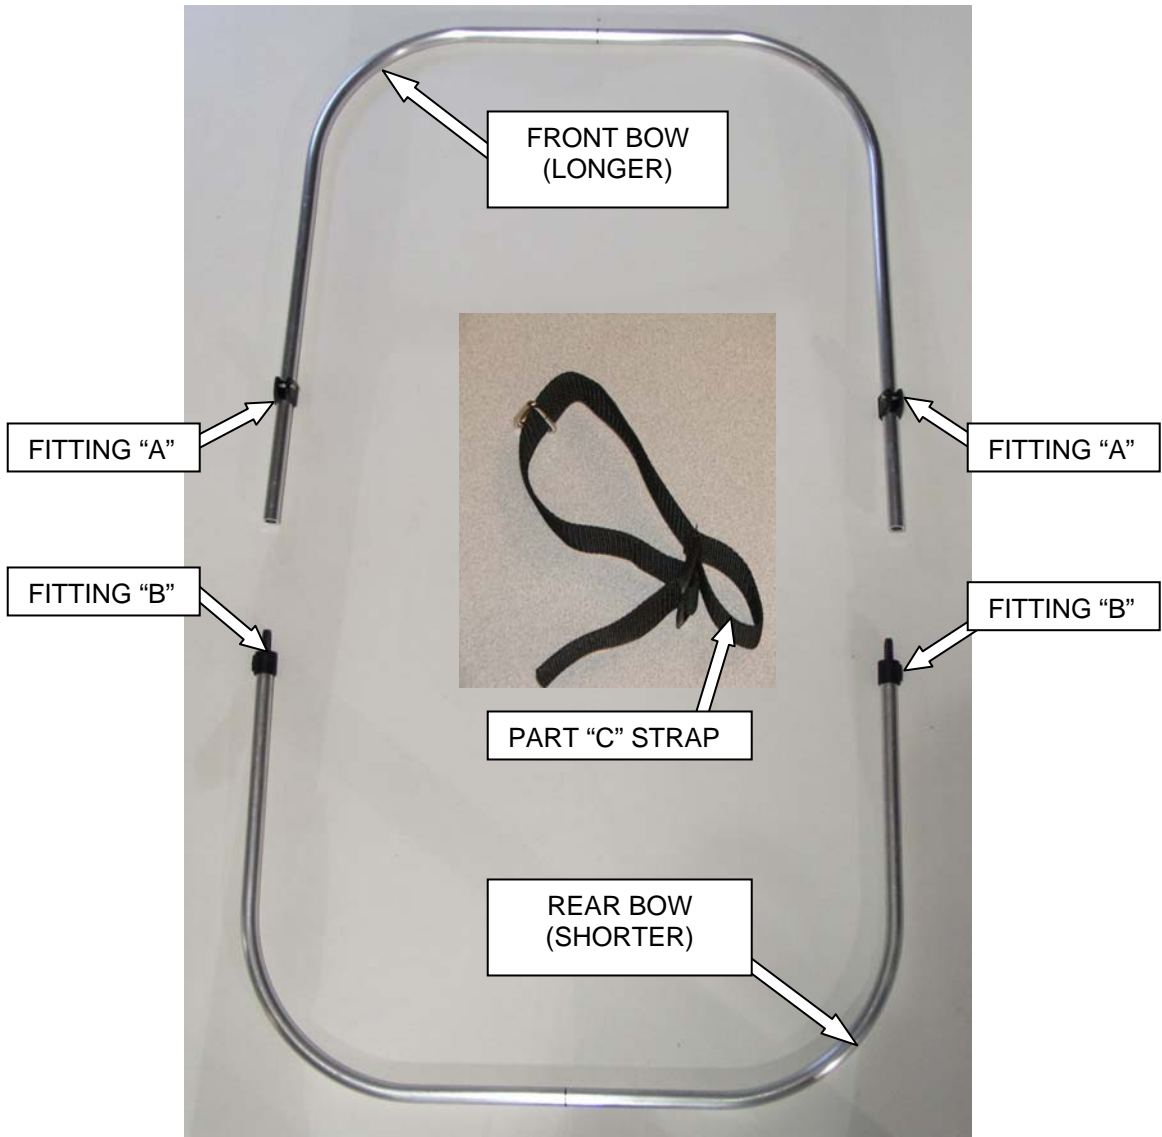

FIGURE 1
1. Remove contents from box and lay out the pieces shown in figure 1.
3. Find the front of the Bimini canvas (the tag(s) will be at the back) and slide the front bow through the front pocket with the plastic fitting (A) pointing up.
5. Take the straps (C) and slide the sewn loops with the cinch-loc on to the ends of the rear bow just past the fittings (B).
6. Remove screw from fitting (A). Align holes on fittings (A) and (B) and re-install screw.